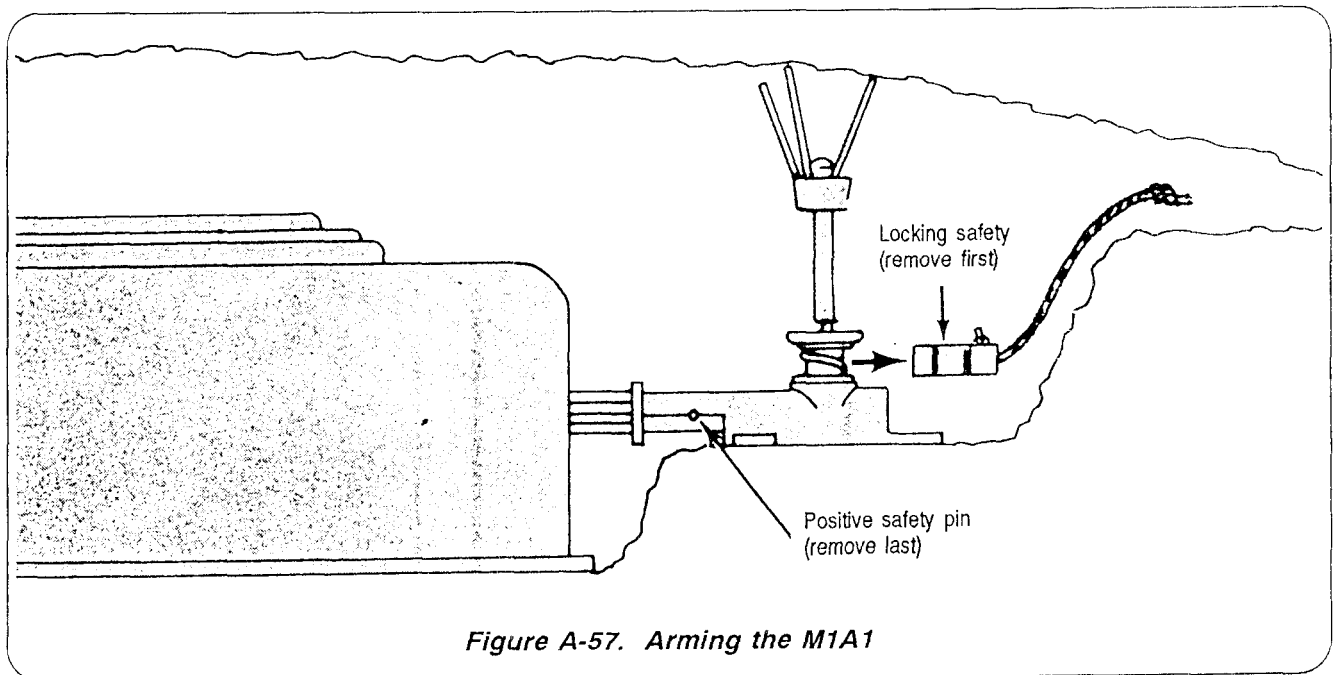

Figure A-57. Arming the M1A1
7. Remove the positive safety pin (Figure A-57). Camouflage the mine and FD. Leave the three-pronged head above ground level.